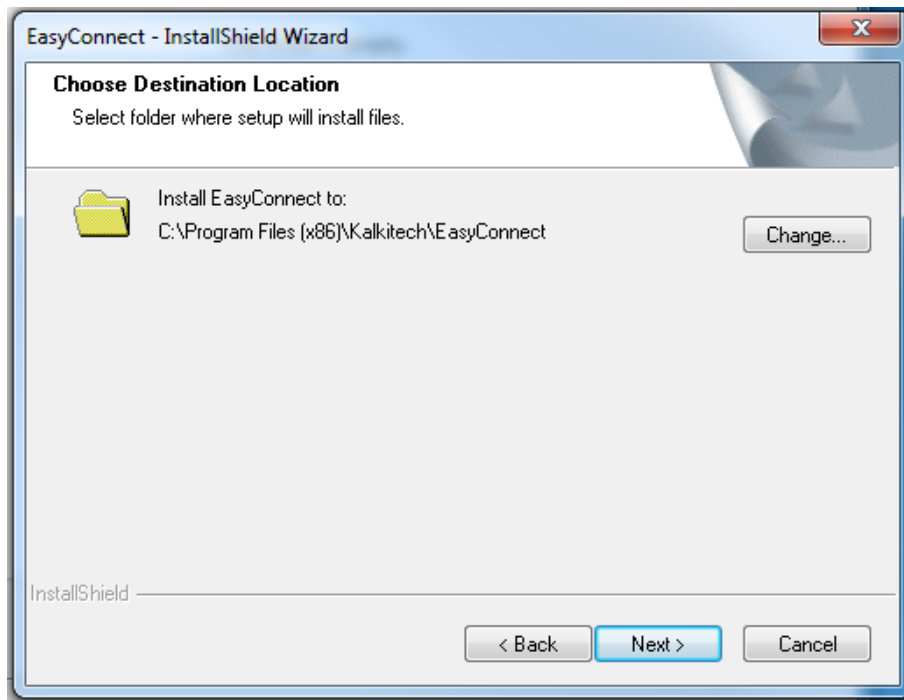

Figure E-7: Choose Destination Location
5. The 'Choose Destination Location' window displays as shown in Figure E-7. Click **Next** to accept the default installation folder.